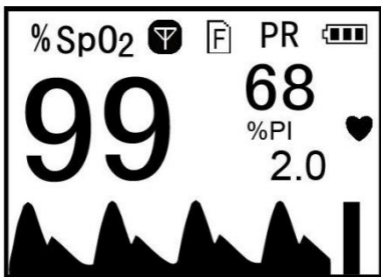

Figure 3.4 SpO2 measuring screen display
5. The Watch will automatically start measurement in 2 seconds when finger is inserted. The display screen is as shown in figure 3.4. User can read the values and view the waveform from the display screen.